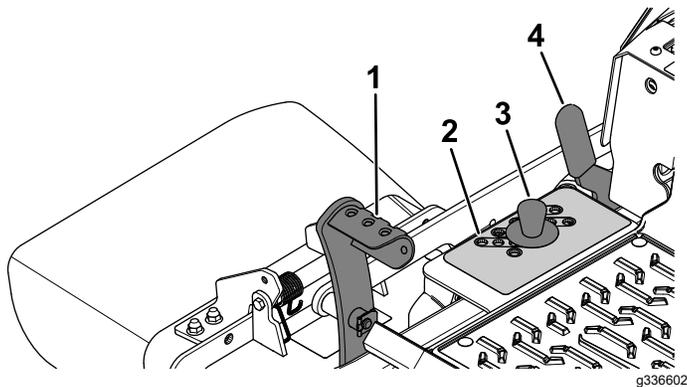

Figure 34
2. Push on the deck-lift pedal with your foot, and raise the mower deck to the TRANSPORT position (also the 140 mm (5-1/2 inches) cutting height position) as shown in Figure 34.
3. To adjust, remove the pin from the height-of-cut bracket (Figure 34).
4. Select a hole in the height-of-cut bracket corresponding to the height of cut desired, and insert the pin (Figure 34).